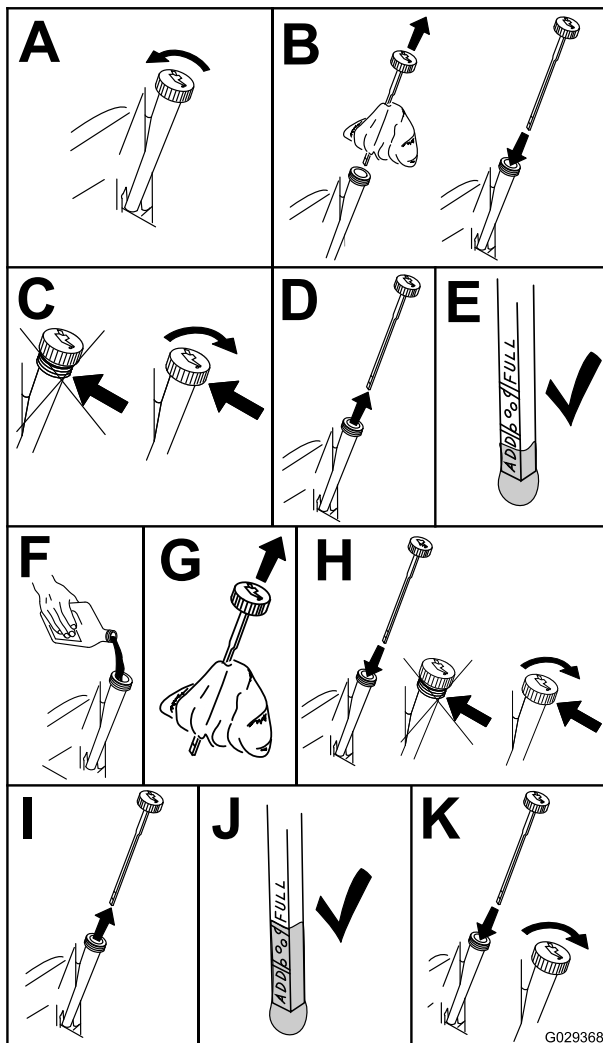

Figure 32
- To keep dirt, grass clippings, etc., out of the engine, clean the area around the oil-fill cap and dipstick before removing it (Figure 32).